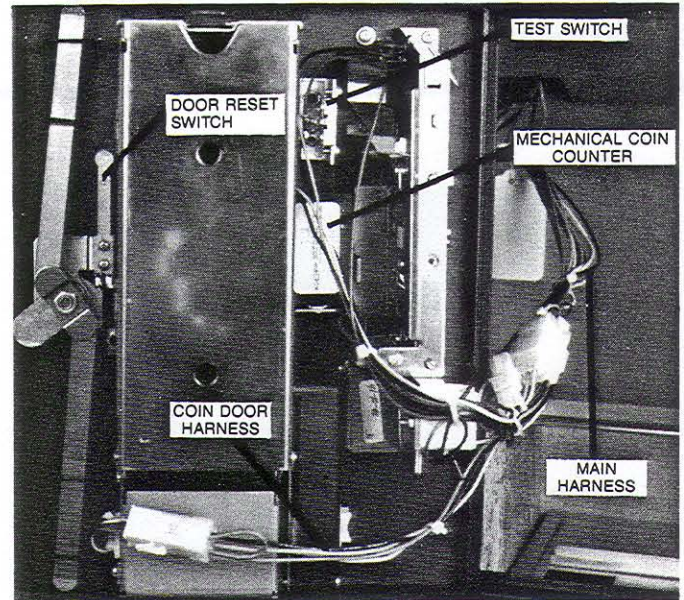

Figure 5. Coin door open showing coin mechanism, reset switch, and test switch
- Inside the coin door you will find a slam switch, Fig. 5, which when activated will cause the game to reset, and a slide switch will put the game into test mode when depressed and released.
- target lamps (3)
- remove darts (2) on PC board
- throw darts (2) on PC board